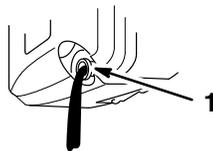

Figure 14
4. Remove the dipstick and tip the mower on the left side, draining the oil out the oil fill tube into an appropriate container (Fig. 14).